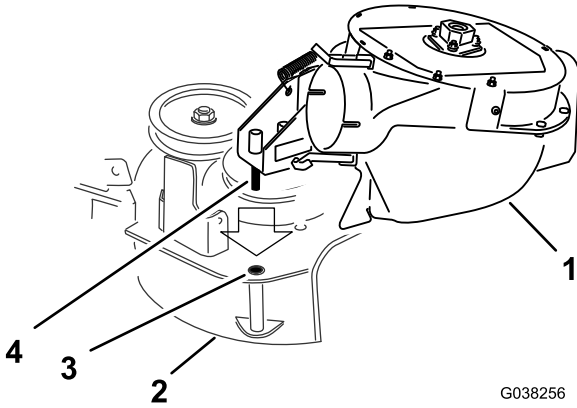

Figure 27
- Align the pivot pin on the blower with the pivot-pin hole in the mower deck (Figure 27).
- Lower the blower and slide the pivot pin into the pivot hole (Figure 27).